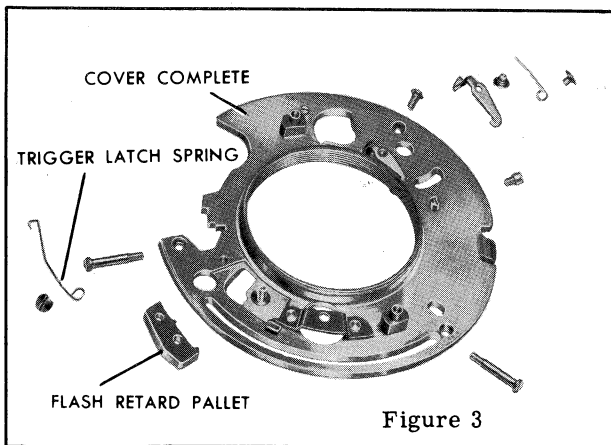

Figure 3
| | | It may be necessary to reduce the tension on the TRIGGER LATCH SPRING, figure 3. |
| The F (short stroke) is within the millisecond tolerances but the M (long stroke) is fast | <p>THE FLASH RETARD PALLET, figure 3, is not meshing properly with the winding lever.</p> <p>The flash retard pallet may be binding on the speed index plate.</p> | <p>With special Tool No. 657, turn the eccentric post so that the pallet will mesh firmly in the teeth of the winding lever. Make certain the post is tight on the cover after making this adjustment.</p> <p>The index plate will be marked at the binding point. File the plate at this point to allow clearance for the pallet.</p> |
Trip the shutter and lightly hold the winding lever down around the central collar on the cover. As the shutter is tripped, the end of the latch should fall into the slot on the cover. If it does not, add more tension on the **TRIGGER LATCH SPRING**, figure 3. Check for a bind between the trigger latch and the **TRIGGER ASSEMBLY**, figure 5, at the point of attachment. The winding lever should contact the trigger latch; push the latch out of the slot in the cover and open the shutter blades. After the shutter has been tripped, the latch should return to a position where it is resting on the ledge just above the small slot in the cover.
4. **TRIGGER LATCH SPRING**, figure 3.
7. **FLASH RETARD PALLET**, figure 3.
9. **COVER COMPLETE**, figure 3.